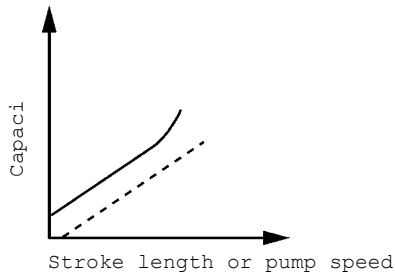

Fig.4-3 Capacity graph
(1) The discharge capacity is large as shown in Fig. 4-3.